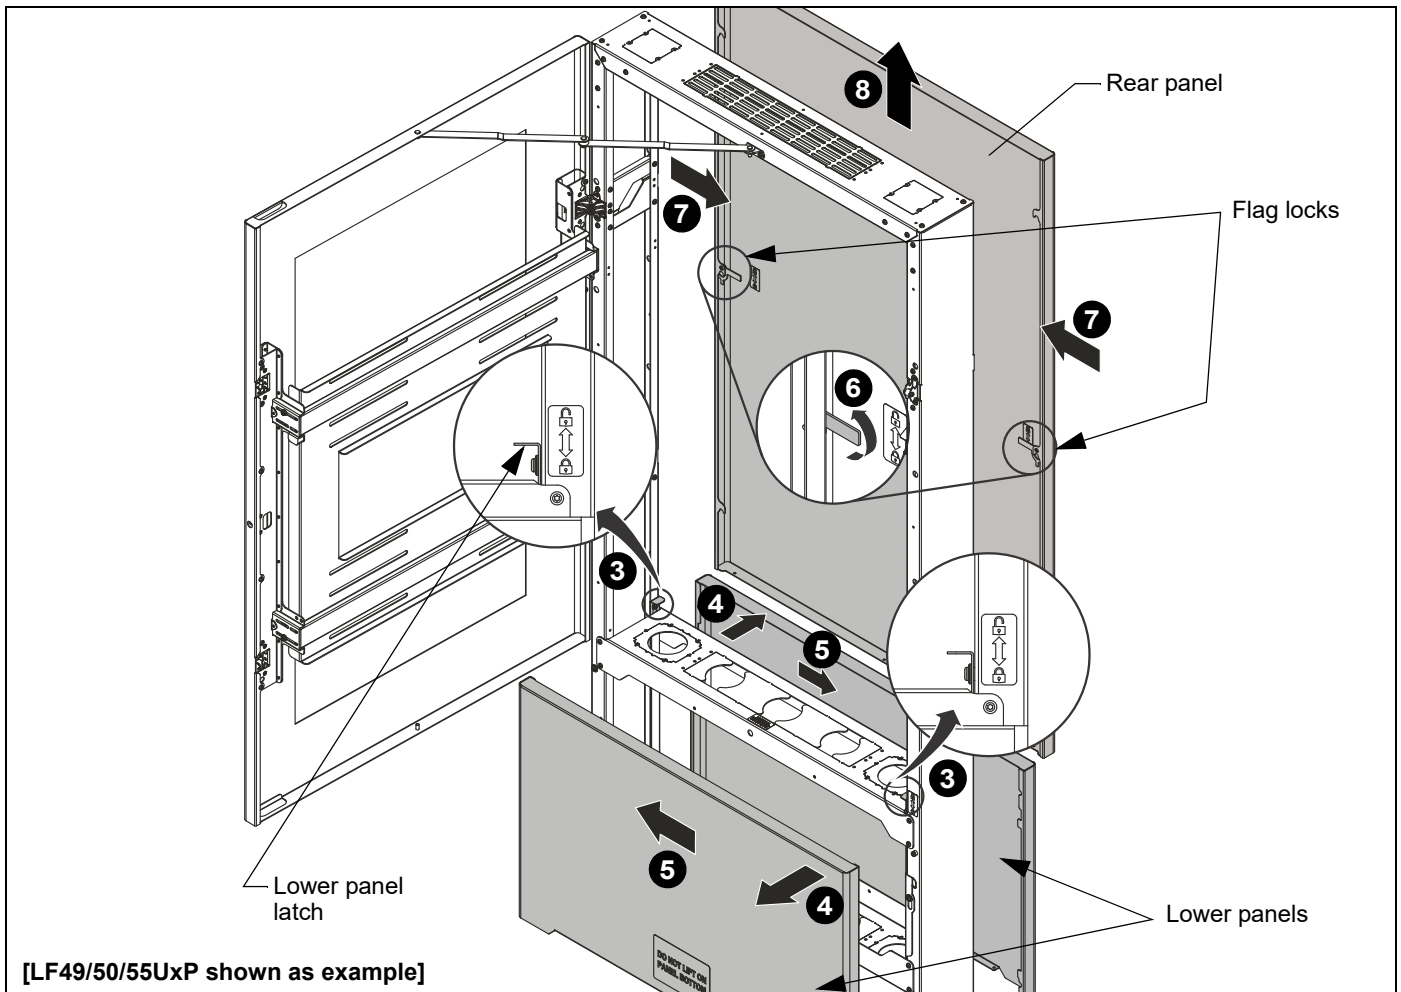

Figure 2
3. Lift up the lower panel latch to release lower panel. Lift up opposite lower panel latch to release the opposite lower panel. (See Figure 2)
4. Remove both lower panels by pulling out 1" - 2" on the **latch side** of each lower panel. (See Figure 2)
5. Slide each panel to the non-latch side to remove lower panels. (See Figure 2)
6. **(One-sided display only)** Raise the flag lock on the inside of each side of the rear panel. (See Figure 2)
8. **(One-sided display only)** Lift to remove the rear panel from the kiosk. (See Figure 2)